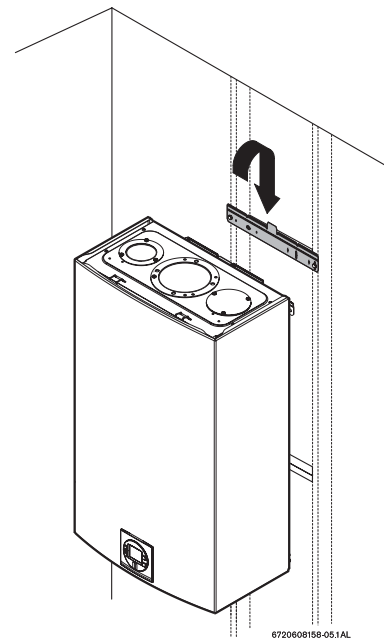

Fig. 24 Mounting the heater
- ▶ Hang the appliance on the bracket, see Fig. 24.